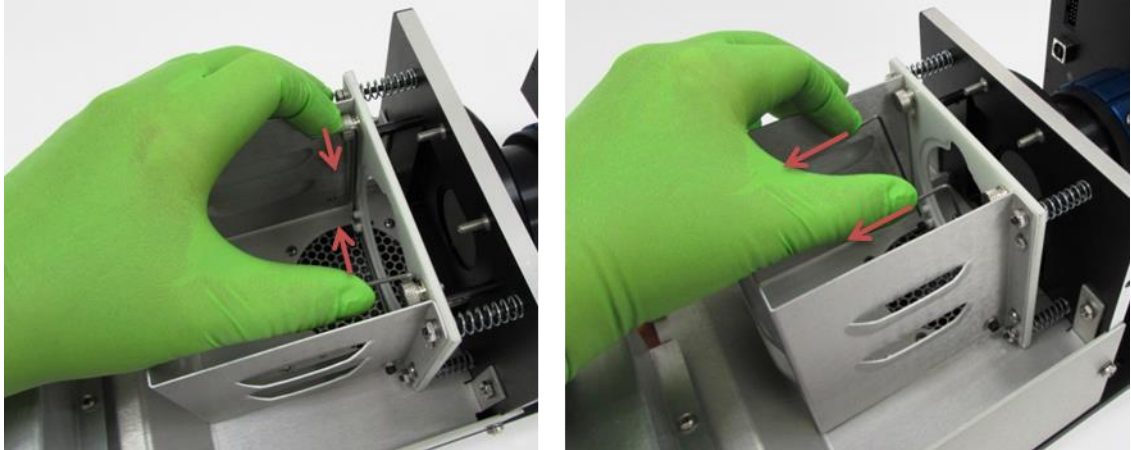

Figure 10: Move Lamp Holder Wires
4. Press the lamp holder wires toward each other and then pull them toward the rear of the APEX2 unit. This is demonstrated in Figure 10.